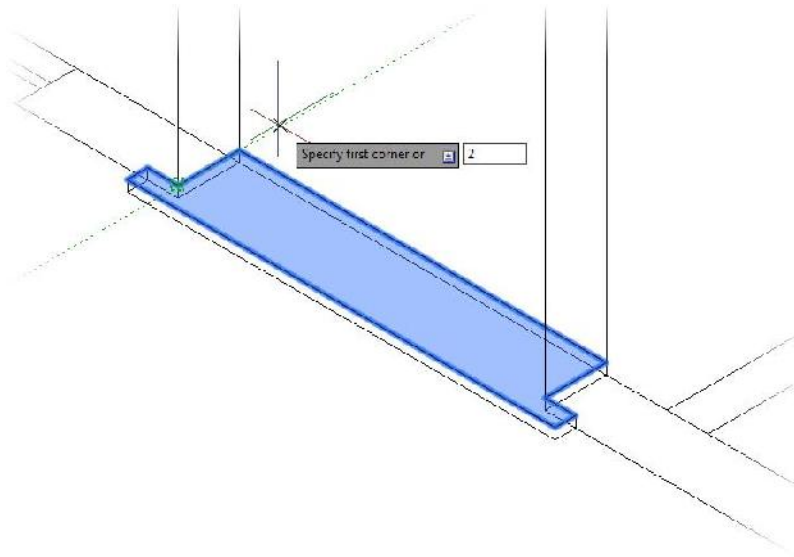

FIGURE 16.42: Locating the first corner of the door box
7. Move the cursor in the X direction until the tracking vector appears, and then enter **2↵ (50↵)** to set the first corner of the door 2" (50 mm) from the corner of the opening (see Figure 16.42).